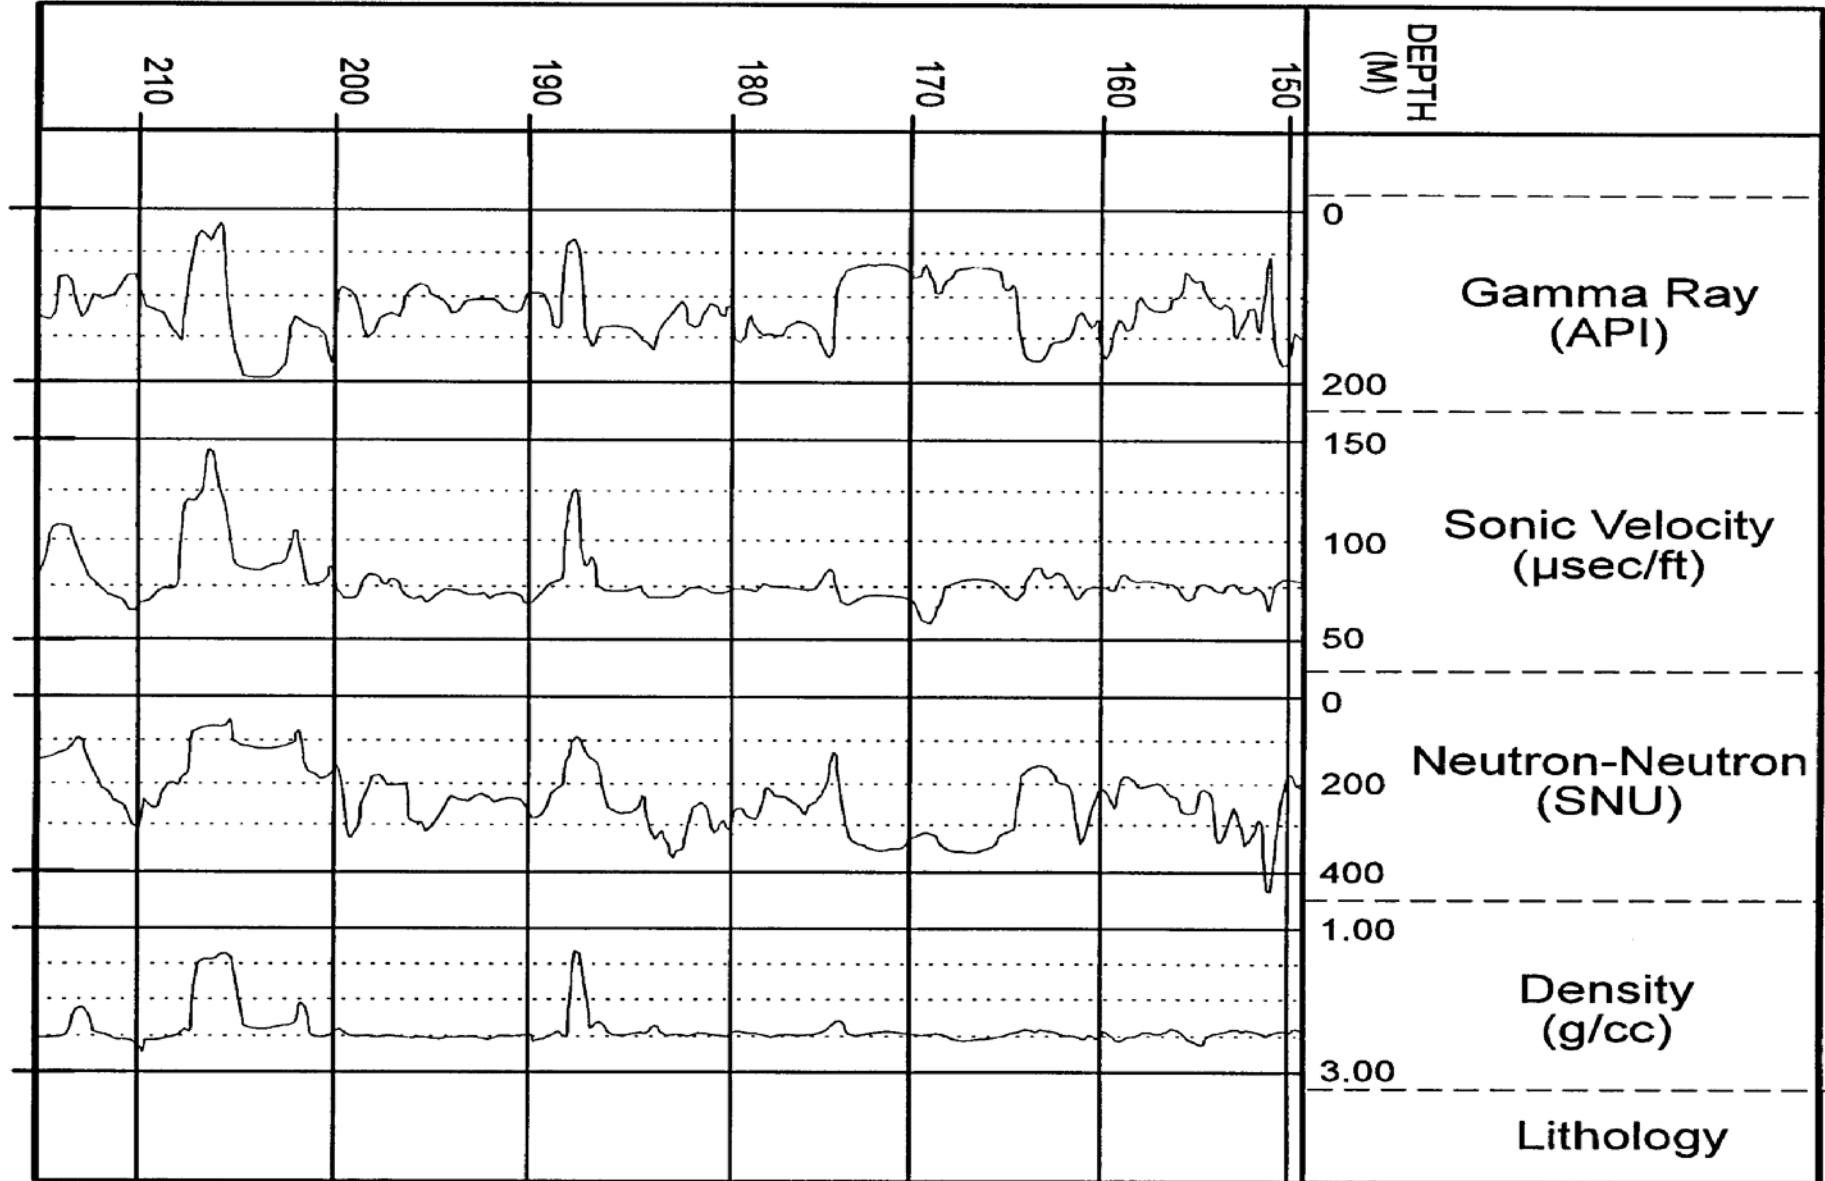

FIGURE 2: COAL DENSITY VS ASH CONTENT
- Use figure 2 to define the coal type and ash content. Are the results relevant?